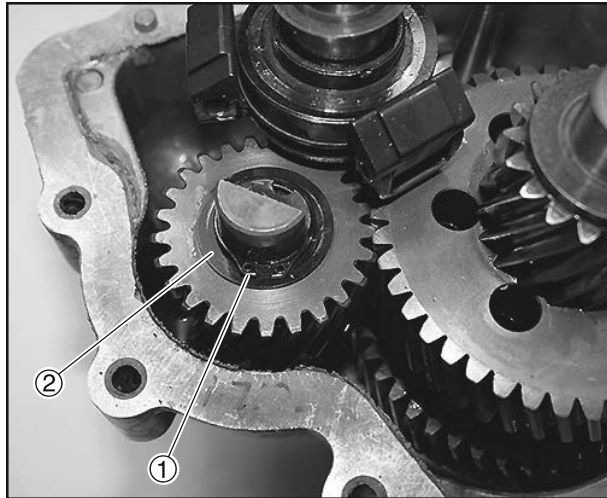

Figure 6-91
7. Install the plate washer (Figure 6-91, (2)) and retaining ring (Figure 6-91, (1)).